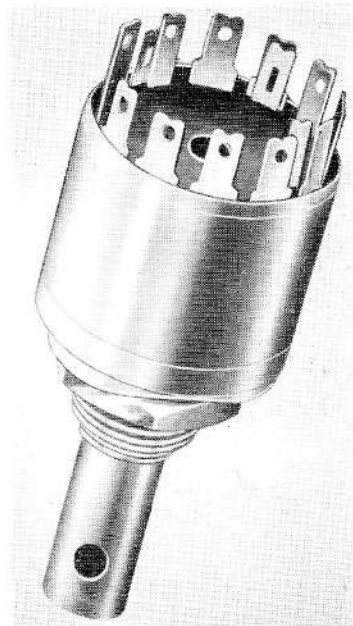

Fig. 1. Rotary switch, Type C
2. A general view of the switch is given in fig. 1. The unit is fitted with a neoprene panel sealing washer, while two neoprene 'O' ring seals are fitted between the bush and spindle, the switch body itself being ventilated. The contacts, which are silver phosphor-bronze bi-metal, and moving parts are totally enclosed, rendering them impervious to dust and atmospheric conditions. Electrical connection to the switch is made via solder lugs, while the switch is secured to the